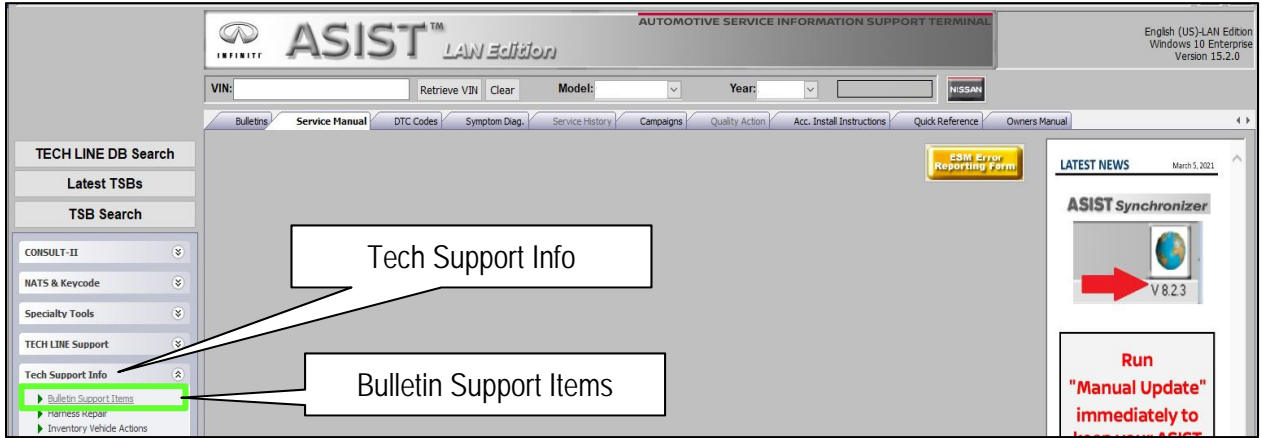
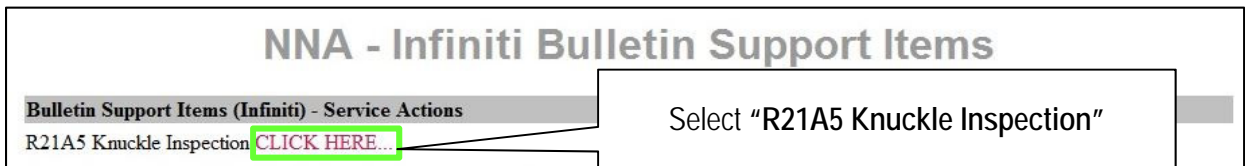

Figure 20
Figure 21
16. Open the ASIST form found at **ASIST > Tech Support Info > Bulletin Support Items > R21A5 Knuckle Inspection** (see Figure 20 and Figure 21).